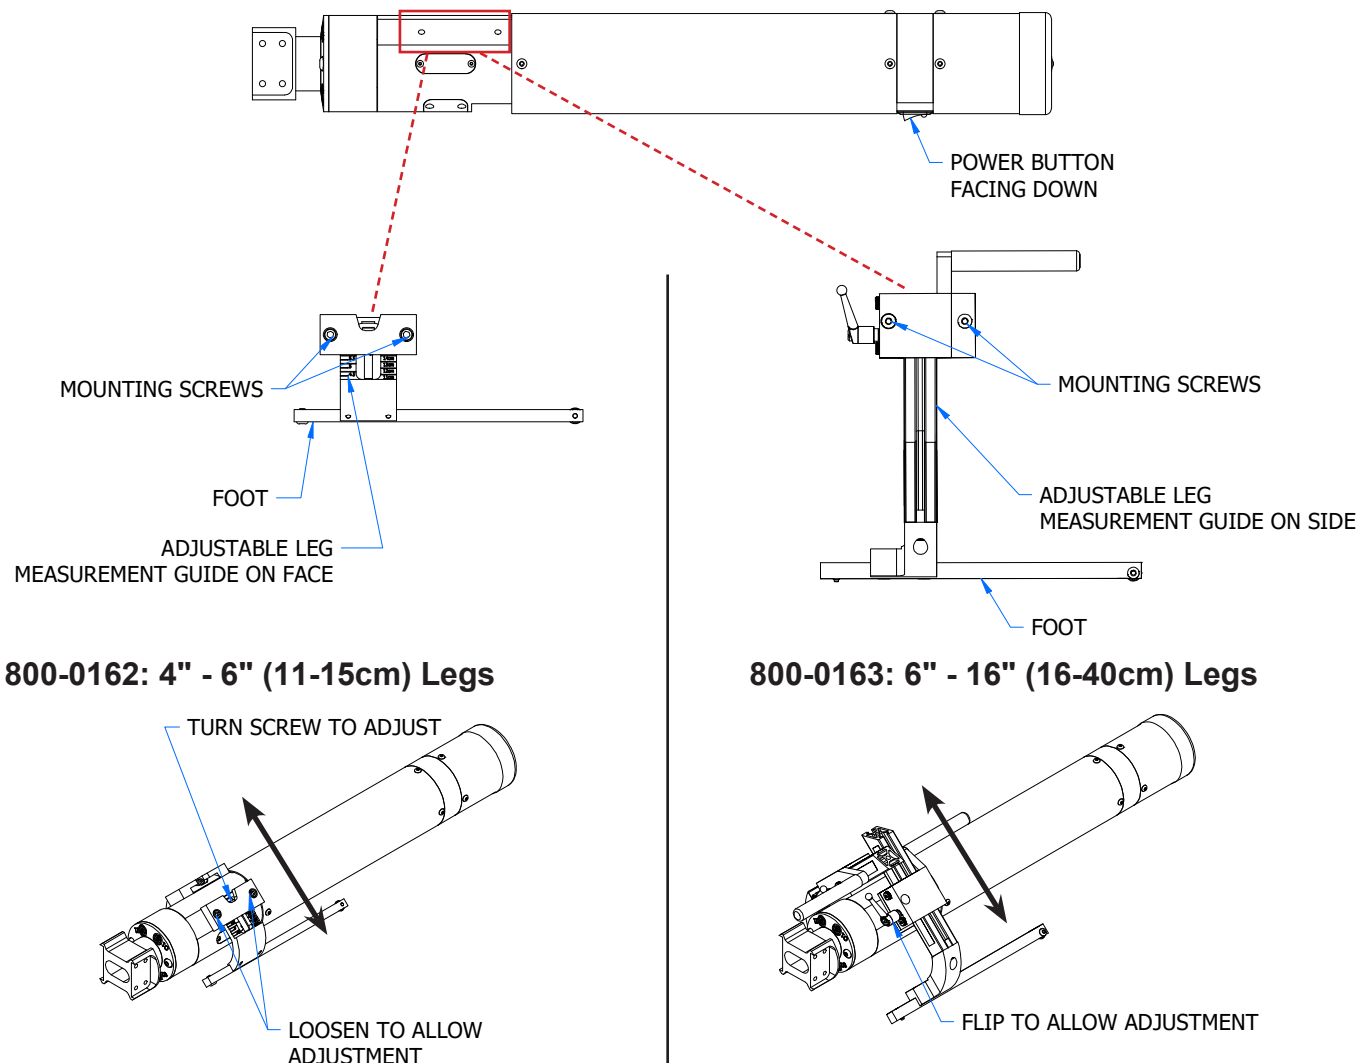

Figure 2-3 - Attaching and Adjusting 4"-16"Ø Legs
2. Attach the matching pair of legs for the size range needed on each side of the PEMS unit. The sets of legs for this range require the PEMS unit be turned over so that the power button is facing down and for the handle to be detached. See fig. 2-3 below.
3. To adjust the leg length after the legs have been mounted: **800-0162** you will loosen the mounting screws and then turn the adjustment screw on both legs until the base of the mounting plate matches the measurement line, then re-tighten the mounting screws. **800-0163** flip the lock lever to allow the leg to be slid so the base of the mounting plate matches the measurement line. See fig. 2-3 below.